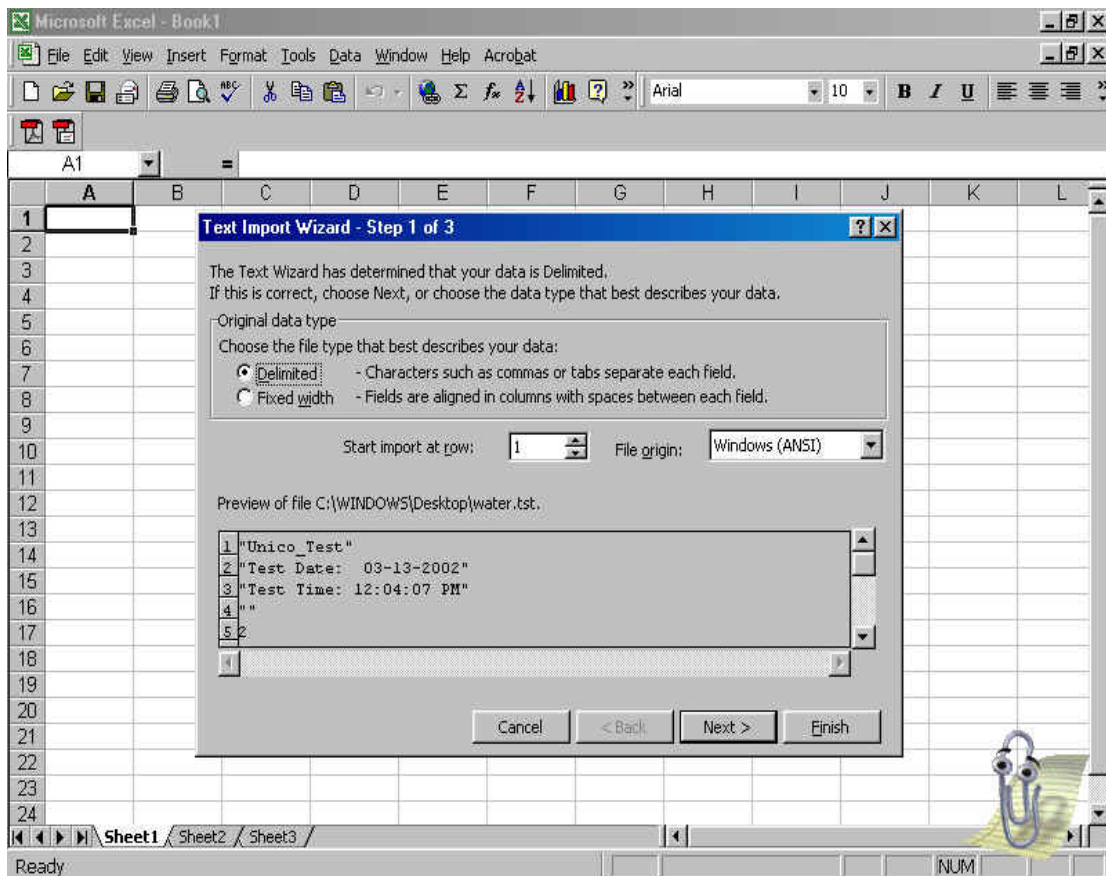

Figure-39 Excel Text Import Wizard I
- Step 3: After the Excel Text Import Wizard appears, select **Delimited**, select the row from which you want the import to start, and click on the **Next** button as shown in Figure-39.